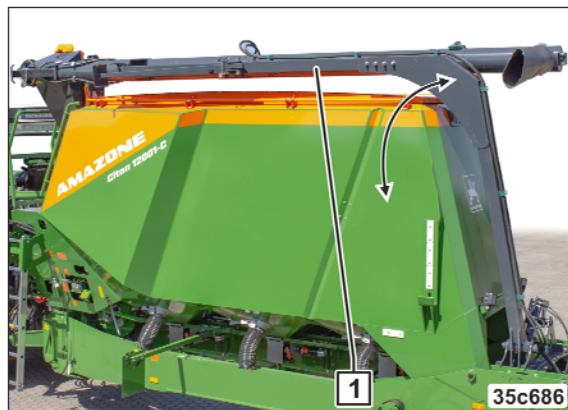

Fig. 244
1. Move the filling auger (Fig. 244/1) into working position.